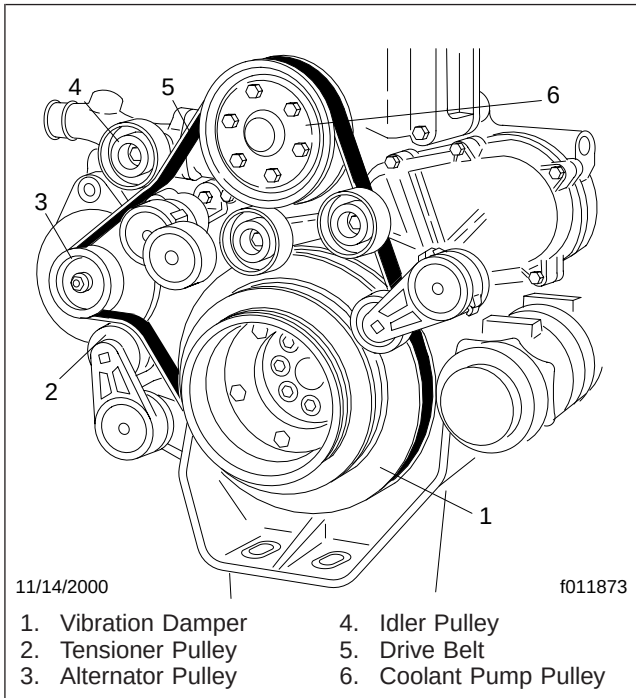
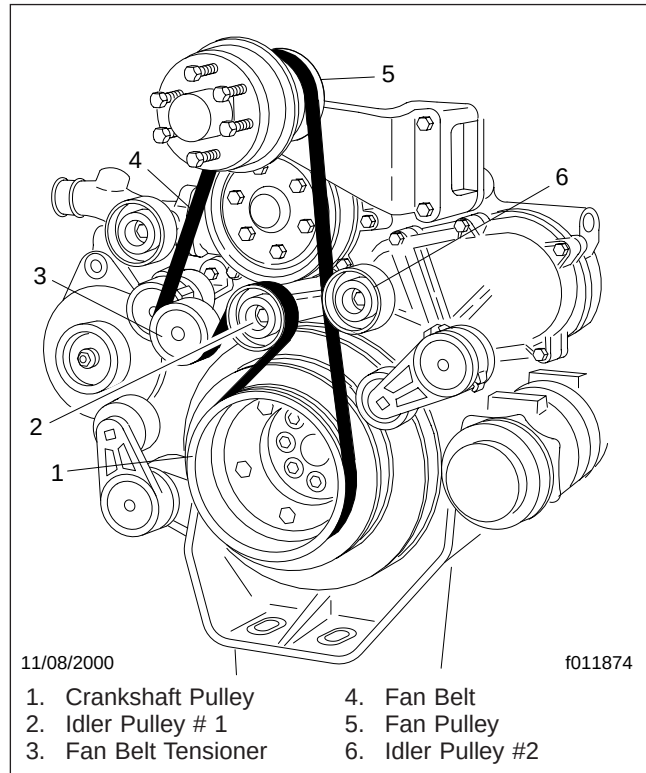

Fig. 1, Main Drive Belt
Fig. 2, Fan Belt
3. Check the alternator and coolant pump (main) drive belt and the fan belt for wear or slipping. See Fig. 1 and Fig. 2.
3. Remove the main drive belt from the alternator, coolant pump, and the idler pulleys. See Fig. 1. Discard the old belt.
3. Remove the drive belt from the fan and the idler pulleys. See Fig. 2. Discard the old belt.